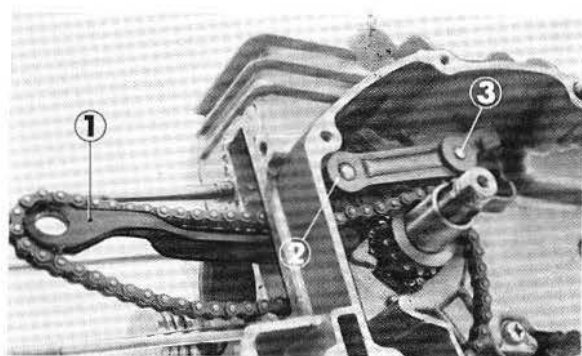

Fig. 2-43 ① Oil guide ② Headed rivet
3. Tensioner arm may be removed by filing off the headed rivet, (Fig. 2-43)